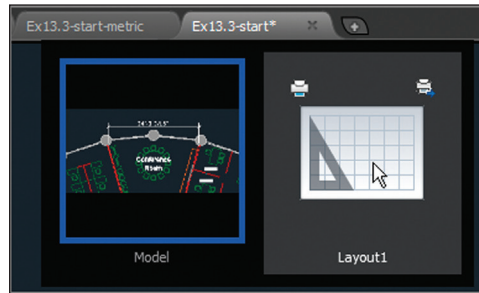

FIGURE 13.10 Accessing Layout1 from a file tab
3. Hover the cursor over the current drawing's file tab and click Layout1 (see Figure 13.10).